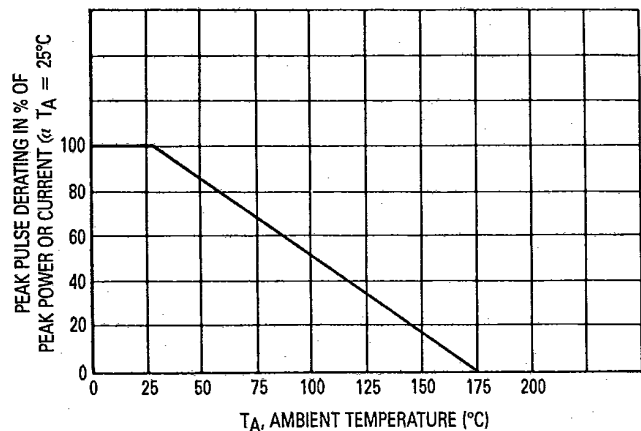

Figure 2. Pulse Derating Curve
- I_{pp}** Peak Pulse Current — See Figure 2